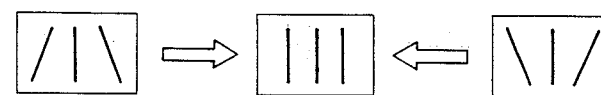

Fig. 21-5
3. Adjust SIDE PIN TILT by turning DA board RV19 as shown in Fig. 21-5.